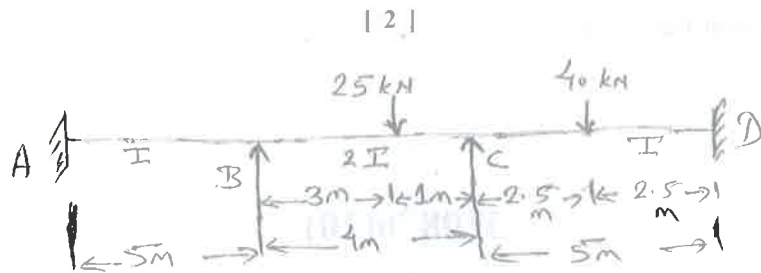

Fig. 1
- (b) Analyse the continuous beam loaded in fig. 1, by